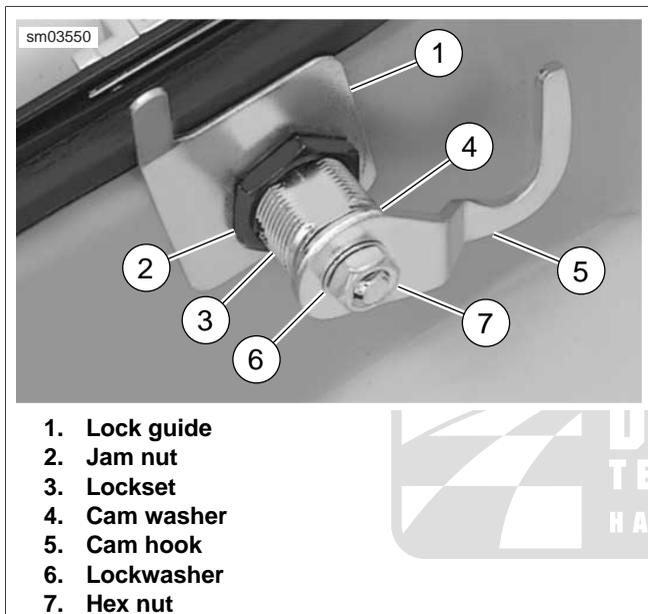

Figure 2-121. Lockset Assembly
1. At inside of Tour-Pak lid, remove hex nut, internal tooth lockwasher, cam hook and cam washer. Remove jam nut and lock guide. See Figure 2-121.
3. Install lock guide over threaded body of lockset oriented with finger at rear and pointing toward bottom of Tour-Pak lid. See Figure 2-121.